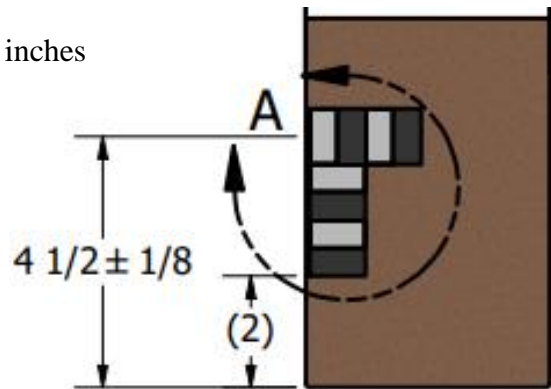

Figure 6. Placement of barcode on the box
- The horizontal barcode will be positioned on the left edge of box with its vertical center located $4 \frac{1}{2} \pm \frac{1}{8}$ inches from the bottom of the box. The vertical barcode will be positioned directly below the horizontal barcode with its left side running down the left edge of box (see Figures 6 and 7).